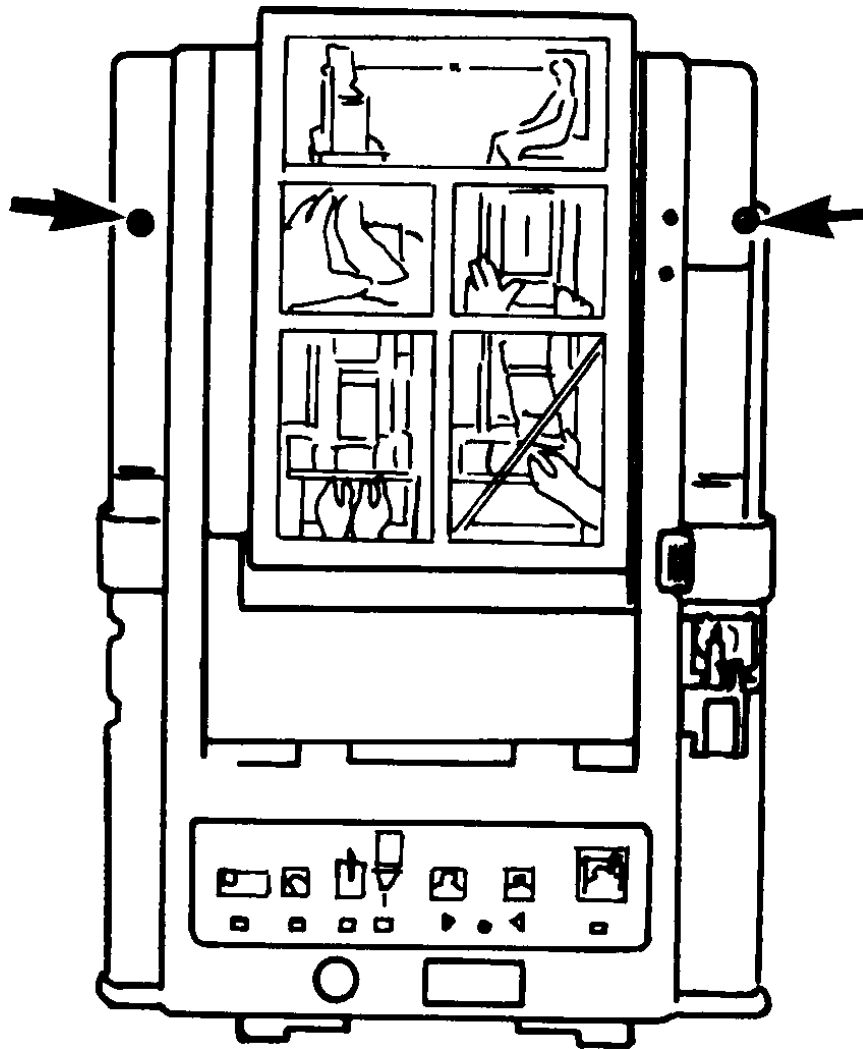

Figure 4-5 Back Cover Screw Removal
- 1.8    **Remove two recessed screws at top of Back Cover. (Fig. 4-5)**